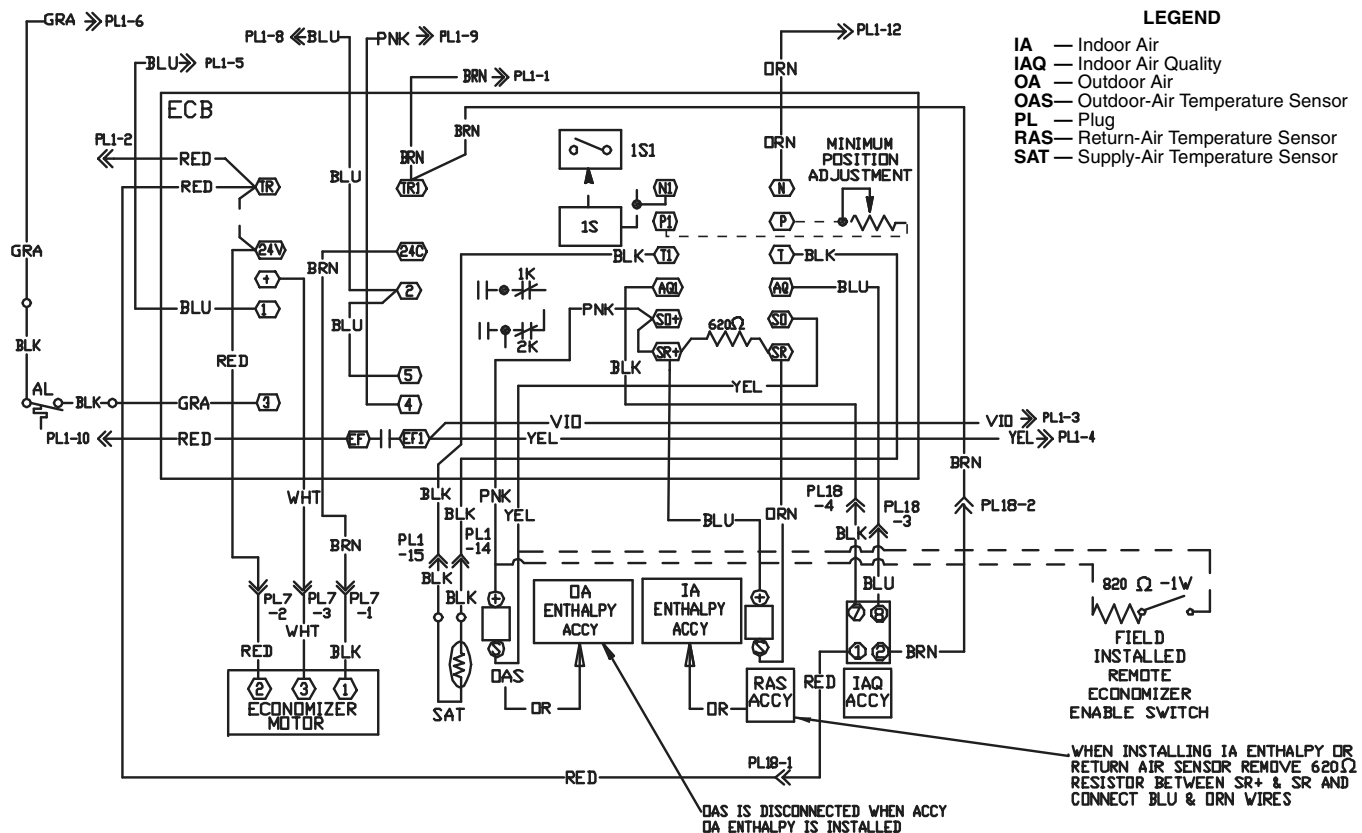
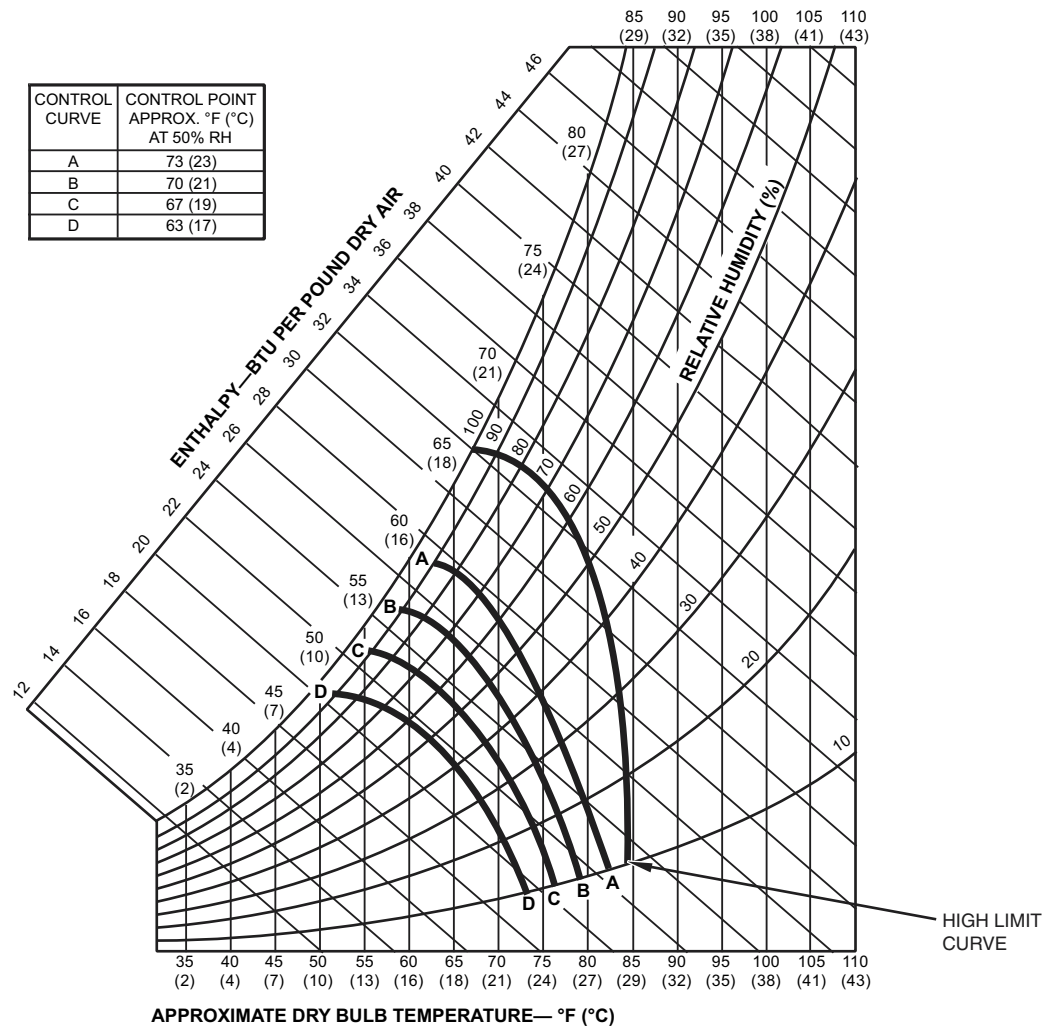
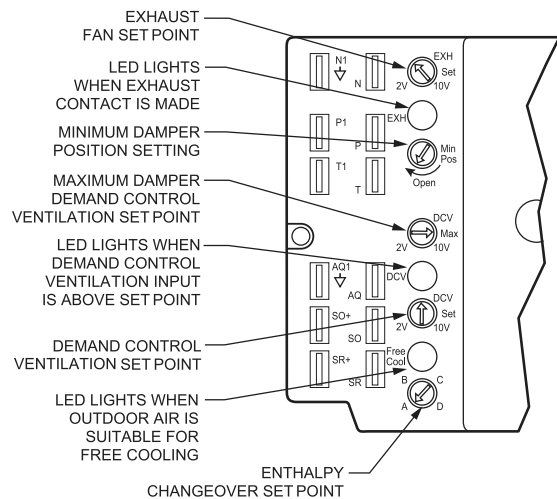

Fig. 26 — EconoMiSer IV Wiring
Fig. 27 — Enthalpy Changeover Set Points
Fig. 28 — EconoMiser IV Controller Potentiometer and LED Locations
For differential dry bulb control the standard outdoor dry bulb sensor is used in conjunction with an additional accessory dry bulb sensor (part number CRTEMPSN002A00). The accessory sensor must be mounted in the return airstream. Wiring is provided in the EconoMiSer IV wiring harness. See Fig. 26.
For enthalpy control, accessory enthalpy sensor (part number HH57AC078) is required. Replace the standard outdoor dry bulb temperature sensor with the accessory enthalpy sensor in the same mounting location. When the outdoor air enthalpy rises above the outdoor enthalpy changeover set point, the outdoor-air damper moves to its minimum position. The outdoor enthalpy changeover set point is set with the outdoor enthalpy set point potentiometer on the EconoMiSer IV controller. The set points are A, B, C, and D. See Fig. 27. The factory-installed 620-ohm jumper must be in place across terminals S_R and + on the EconoMiSer IV controller. See Fig. 26.
Replace the standard outside air dry bulb temperature sensor with the accessory enthalpy sensor in the same mounting location. Mount the return-air enthalpy sensor in the return-air duct. Wiring is provided in the EconoMiSer IV wiring harness. See Fig. 26. The outdoor enthalpy changeover set point is set with the outdoor enthalpy set point potentiometer on the EconoMiSer IV controller. When using this mode of changeover control, turn the enthalpy set point potentiometer fully clockwise to the D setting. See Fig. 28.
The exhaust set point will determine when the exhaust fan runs based on damper position (if accessory power exhaust is installed). The set point is modified with the Exhaust Fan Set Point (EXH SET) potentiometer. See Fig. 28. The set point represents the damper position above which the exhaust fans will be turned on. When there is a call for exhaust, the EconoMiSer IV controller provides a 45 ± 15 second delay before exhaust fan activation to allow the dampers to open. This delay allows the damper to reach the appropriate position to avoid unnecessary fan overload.
There is a minimum damper position potentiometer on the EconoMiSer IV controller. See Fig. 28. The minimum damper position maintains the minimum airflow into the building during the occupied period.
3. Ensure that the factory-installed jumper is in place across terminals P and P1. If remote damper positioning is being used, make sure that the terminals are wired according to Fig. 26 and that the minimum position potentiometer is turned fully clockwise.
To control the minimum damper position remotely, remove the factory-installed jumper on the P and P1 terminals on the EconoMiSer IV controller. Wire the field-supplied potentiometer to the P and P1 terminals on the EconoMiSer IV controller. See Fig. 26.
The factory default configuration for the EconoMiSer IV control is occupied mode. Occupied status is provided by the black jumper from terminal TR to terminal N. When unoccupied mode is desired, install a field-supplied timeclock function in place of the jumper between TR and N. See Fig. 26. When the timeclock contacts are closed, the EconoMiSer IV control will be in occupied mode. When the timeclock contacts are open (removing the 24-v signal from terminal N), the EconoMiSer IV will be in unoccupied mode.